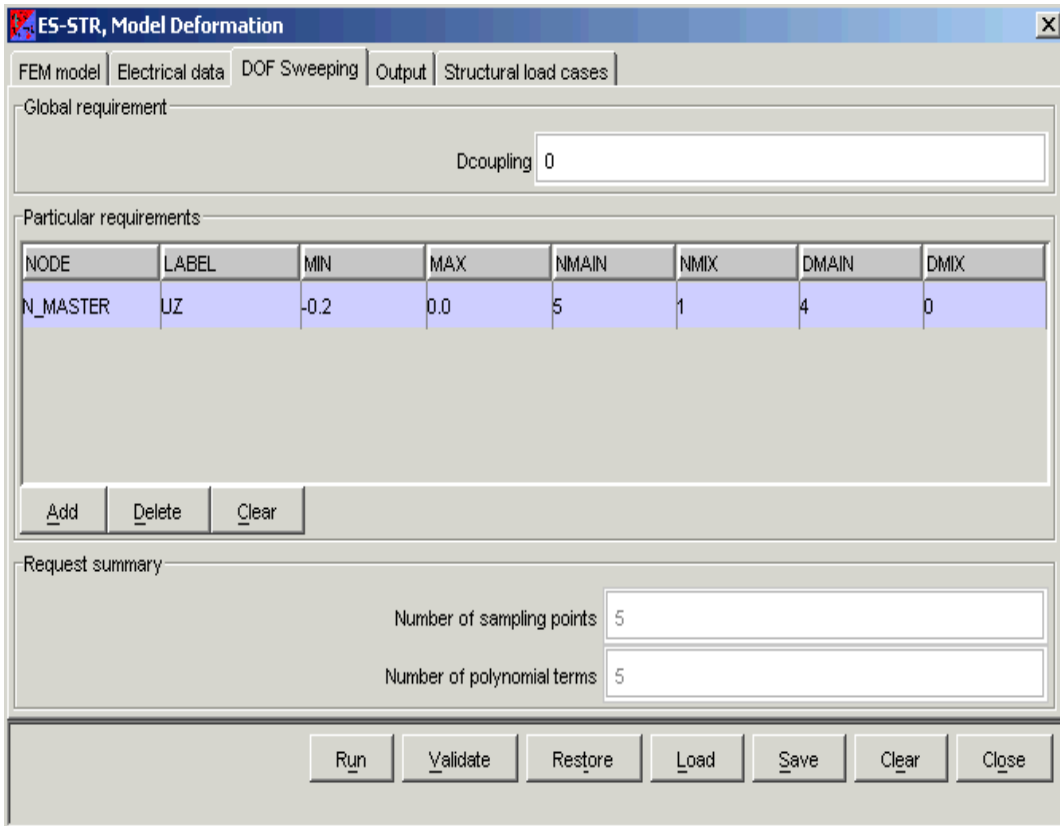

Figure 115: **DOF Sweeping** tab
- In the **DOF Sweeping** tab, set the name of the selected degree of freedom and the operating values, as shown in (Figure 115).